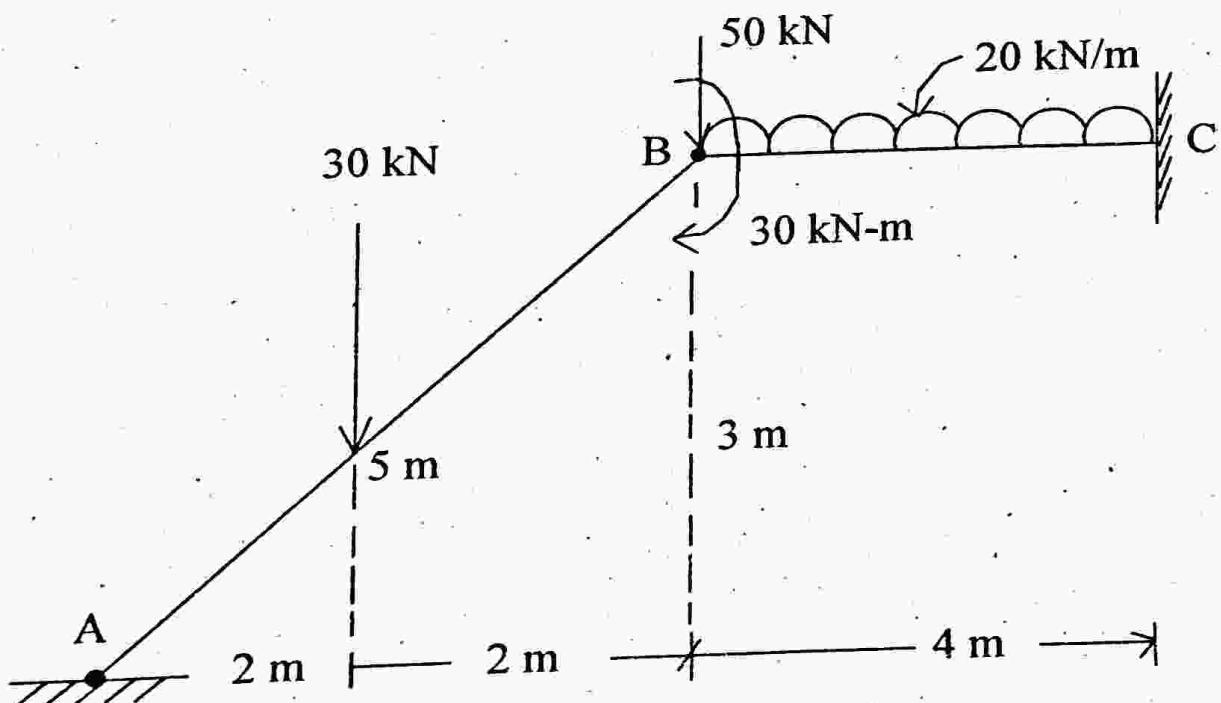

Fig. 9
9. Analyse the plane frame in Fig. 9 by Stiffness method. Draw B.M.D. $E = 25.5 \times 10^6 \text{ kN/m}^2$, size of member = $30 \text{ cm} \times 50 \text{ cm}$. Neglecting axial definition. 14